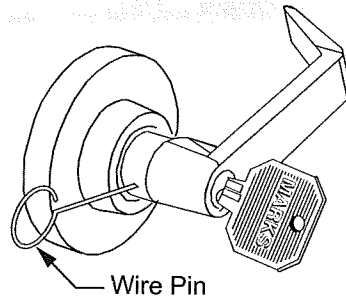

Figure 6
3. For 1-3/8" doors, adjust for 1-5/8" door thickness then install spacer rings (MARKS #1904 for 195 Series or #1704 for 170 Series, not included; see Fig. 6) on each side of door between roses and door.